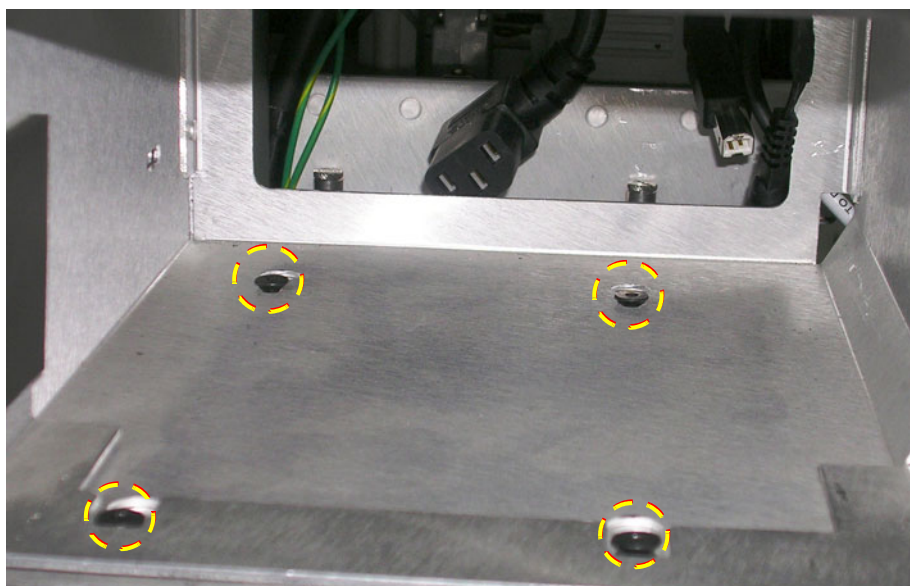

Figure 8-200 Location of Peripherals Console Retaining Screws
3) Loosen the 4 retaining screws that secure the peripherals console in position, as shown in Figure 8-200.
1. Place the new peripherals console in its position on the system and secure with securing screws previously released - Figure 8-200.